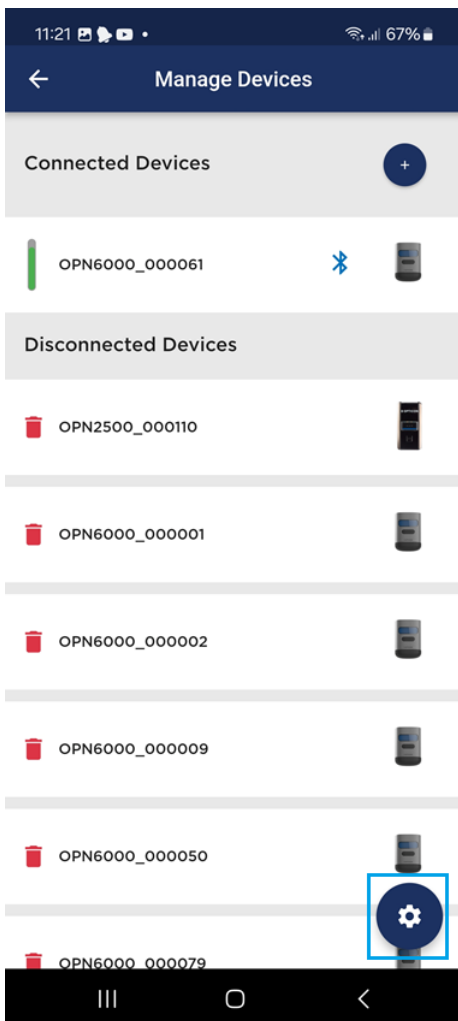

Figure 7-10: The *Scanner configurations* floating button on the *Manage Devices* page.
- 1. Access the Scanner Configurations page:** Navigate to the *Manage Devices* page. At the bottom-right corner, click the floating property icon (as shown in Figure 7-10) to access the *Scanner Configurations* page.